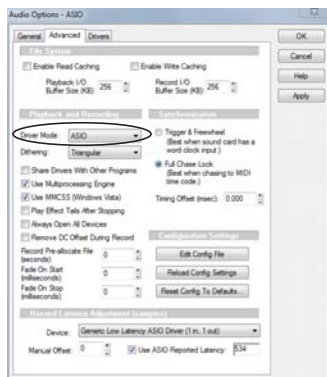

Figure 6-6: Enabling the ASIO driver in SONAR.
- 3 Choose *ASIO* from the Driver Mode menu, as shown in Figure 6-6.
To activate the MicroBook Windows multimedia driver in SONAR choose *WDM/KS* instead of *ASIO* from the *Driver Mode* menu, as shown in Figure 6-6.